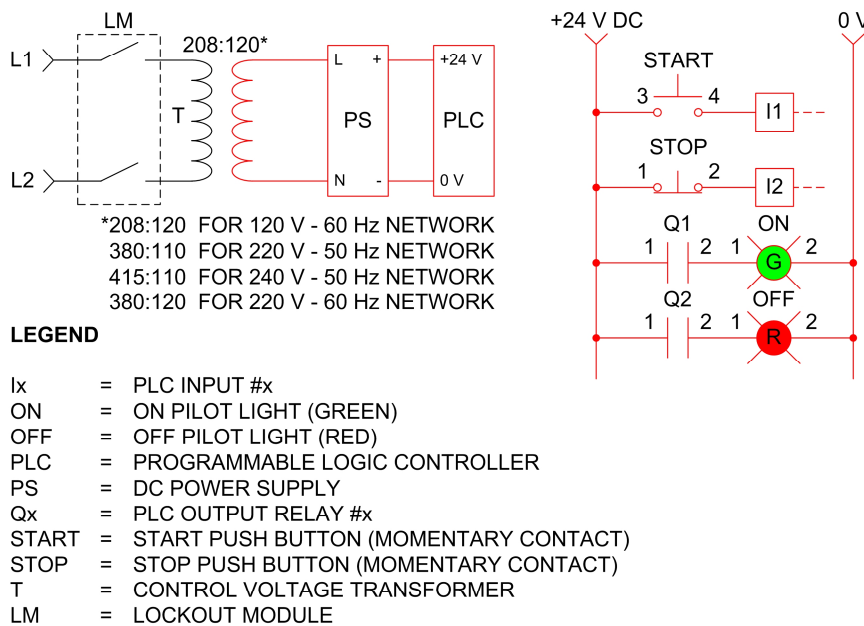

Figure 1-17. PLC input and output connections.
- 11. Connect the PLC inputs and outputs according to Figure 1-17. Make sure that you are using the Switches, model 3112, and Pilot Lights, model 3115-A (DC modules).